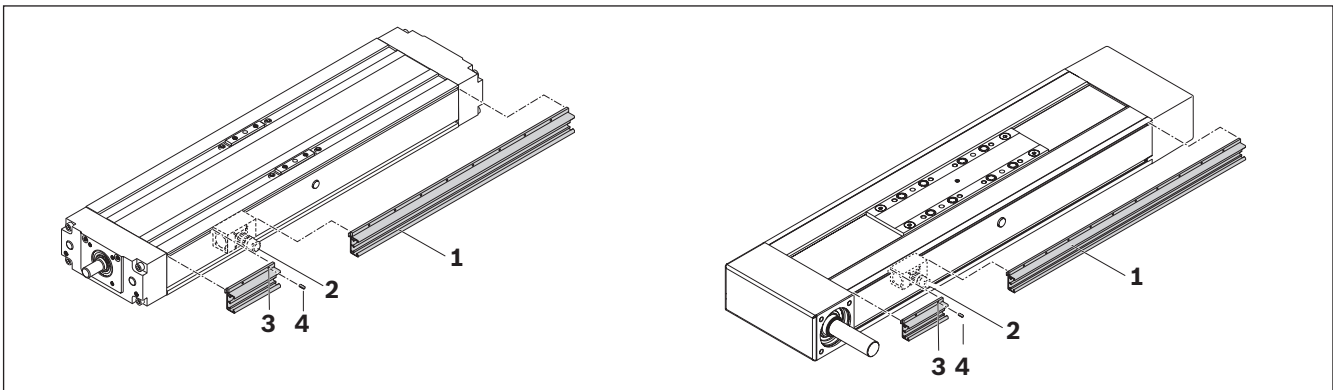

Fig. 8: Mounting the cable duct
1. Measure the length of the cable duct (1).
3. If necessary, make an additional fastening thread M 2.5 (3).
4. Suspend the cable duct without cover (pay attention to the correct position → ☒ Fig.8) and secure with the set screws (4) included.
► Fig. 8 shows CKR; mounting for CKK is identical.
1. Insert the sensor (1) into the cable duct (2) so that the set screw (3) of the sensor (1) points outwards.